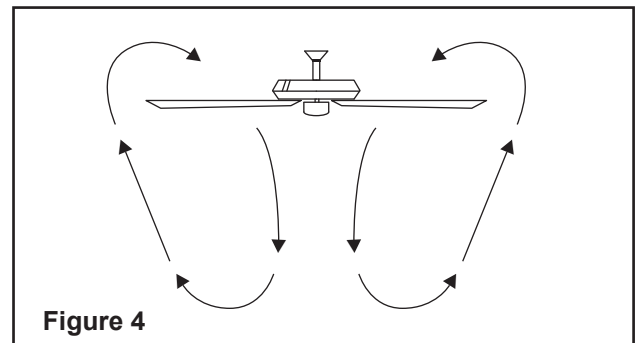

Figure 4
**Warm weather** - (Counter-clockwise Direction) A downward air flow creates a cooling effect. This allows you to set your air conditioner on a warmer setting without affecting your comfort. (Figure 4)